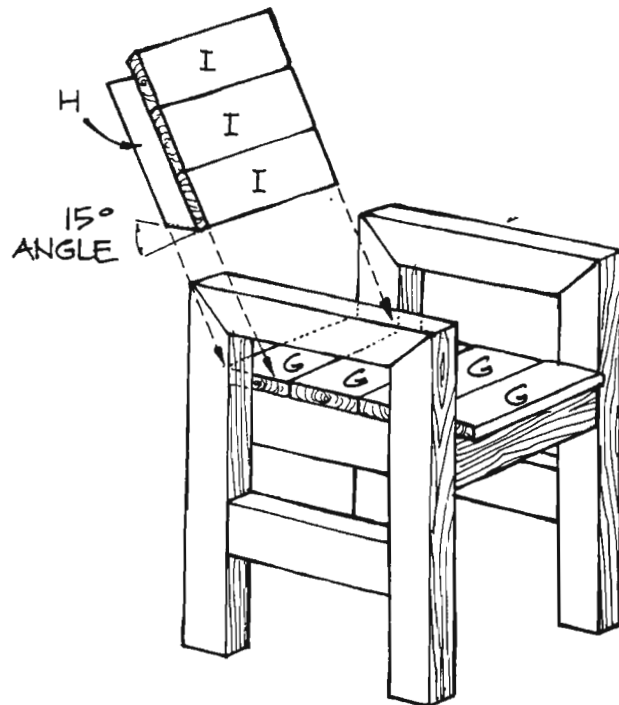

Figure 4
4. Cut four slats (G) from 1 x 6 treated lumber, each 18-1/2 inches long. Place them side by side on top of the seat assembly, with their ends facing the chair sides (see *Figure 4*). The slats should overhang both the front and back of the chair by about 1/2 inch. Secure the four slats by gluing and screwing them to the seat assembly with 1-1/4-inch-long screws. (TIP: It looks much nicer if you draw a line on the slats from the front of the chair to the back—about 1 inch from the slat ends—and place all of your screws on that line.) Put two screws on each end of a slat, and space them uniformly on all of the slats.
1. Cut two back supports (H) from 2 x 4 treated lumber, each 14-1/2 inches long. Then set your saw blade to cut 15 degrees off vertical, and bevel one end of each support to allow the assembled back to lean slightly backwards. (If you're unsure about how to make a bevel cut, refer to the "Tips and Techniques" chapter.)
2. Cut three back slats (I) from 1 x 6 treated lumber, each 18-1/2 inches long.
3. Assemble the chair back by attaching the three back slats (I) to the two back supports (H). The ends of the back slats (I) should be flush with the faces of the two back supports (H). As shown in *Figure 4*, the slats should be flush at the beveled end and extend approximately 1-1/2 inches over the other end of the back support (H). Again, draw a line to guide your screw placement, and use two 1-1/4-inch-long screws on each end of each slat.
4. Fit the assembled back between the chair sides so that the beveled ends of the back supports (H) rest on the rear chair slat (G). Attach the back to the chair by screwing through the chair sides into the back support (H). Use two or three 4-1/2-inch-long screws through each side.